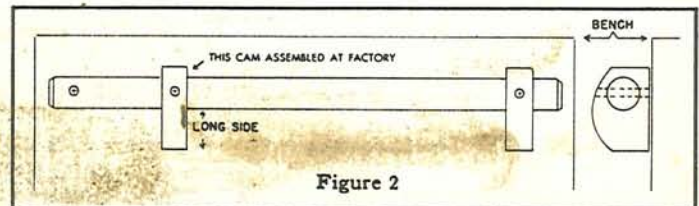

Figure 2
3. Assemble the cams, MS-103 on both shafts, one cam on each shaft. Cam on foot lever end of shaft assembled in place at factory. Place flat side of cams on bench as shown in Figure 2, with foot lever hole to the left and drive in pins SP-2733. Cams on each shaft to match when assembled.